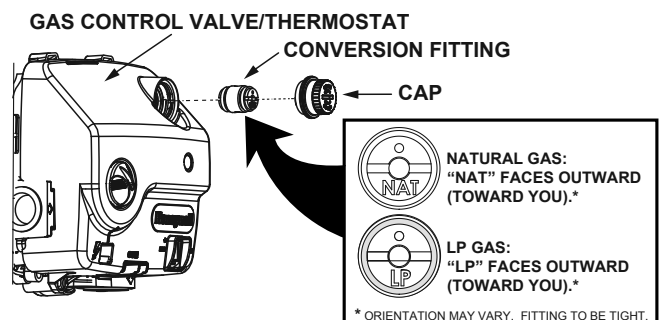

FIGURE 12.
4. Make sure both the conversion fitting (figure 12) and the manifold burner assembly (see door label) are for the type of gas supplied to your home.
1. Remove the cap (shown in Figure 12).
- a. LP GAS: If you are converting the unit to use LP gas (propane), verify that "LP" is marked on the exposed end of the fitting. "LP" must face outward (toward you.) See Figure 12. If "NAT" faces outward, repeat step 2.
- b. NATURAL GAS: If you are converting the unit to use natural gas, verify that "NAT" is marked on the exposed end of the fitting. "NAT" must face outward (toward you.) See Figure 12. If "LP" faces outward, repeat step 2.